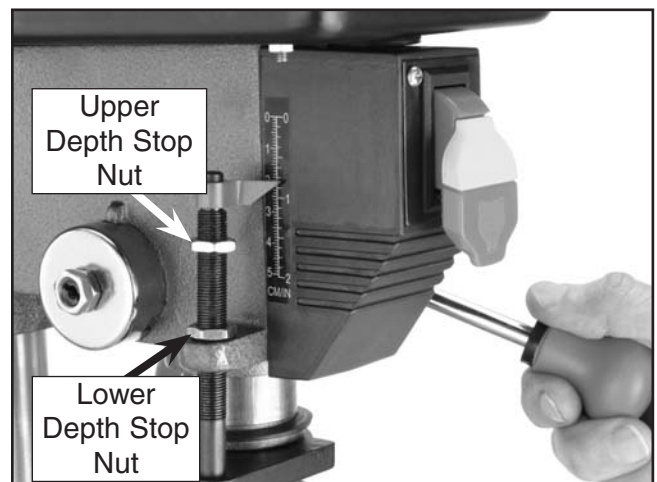

Figure 23. Setting depth stop nuts.
4. Tighten the lower stop nut until it comes into contact with the depth stop, as shown in **Figure 23**.
5. Let the spindle return to its original position and tighten the upper stop nut (**Figure 23**) until it is seated against the lower stop nut.